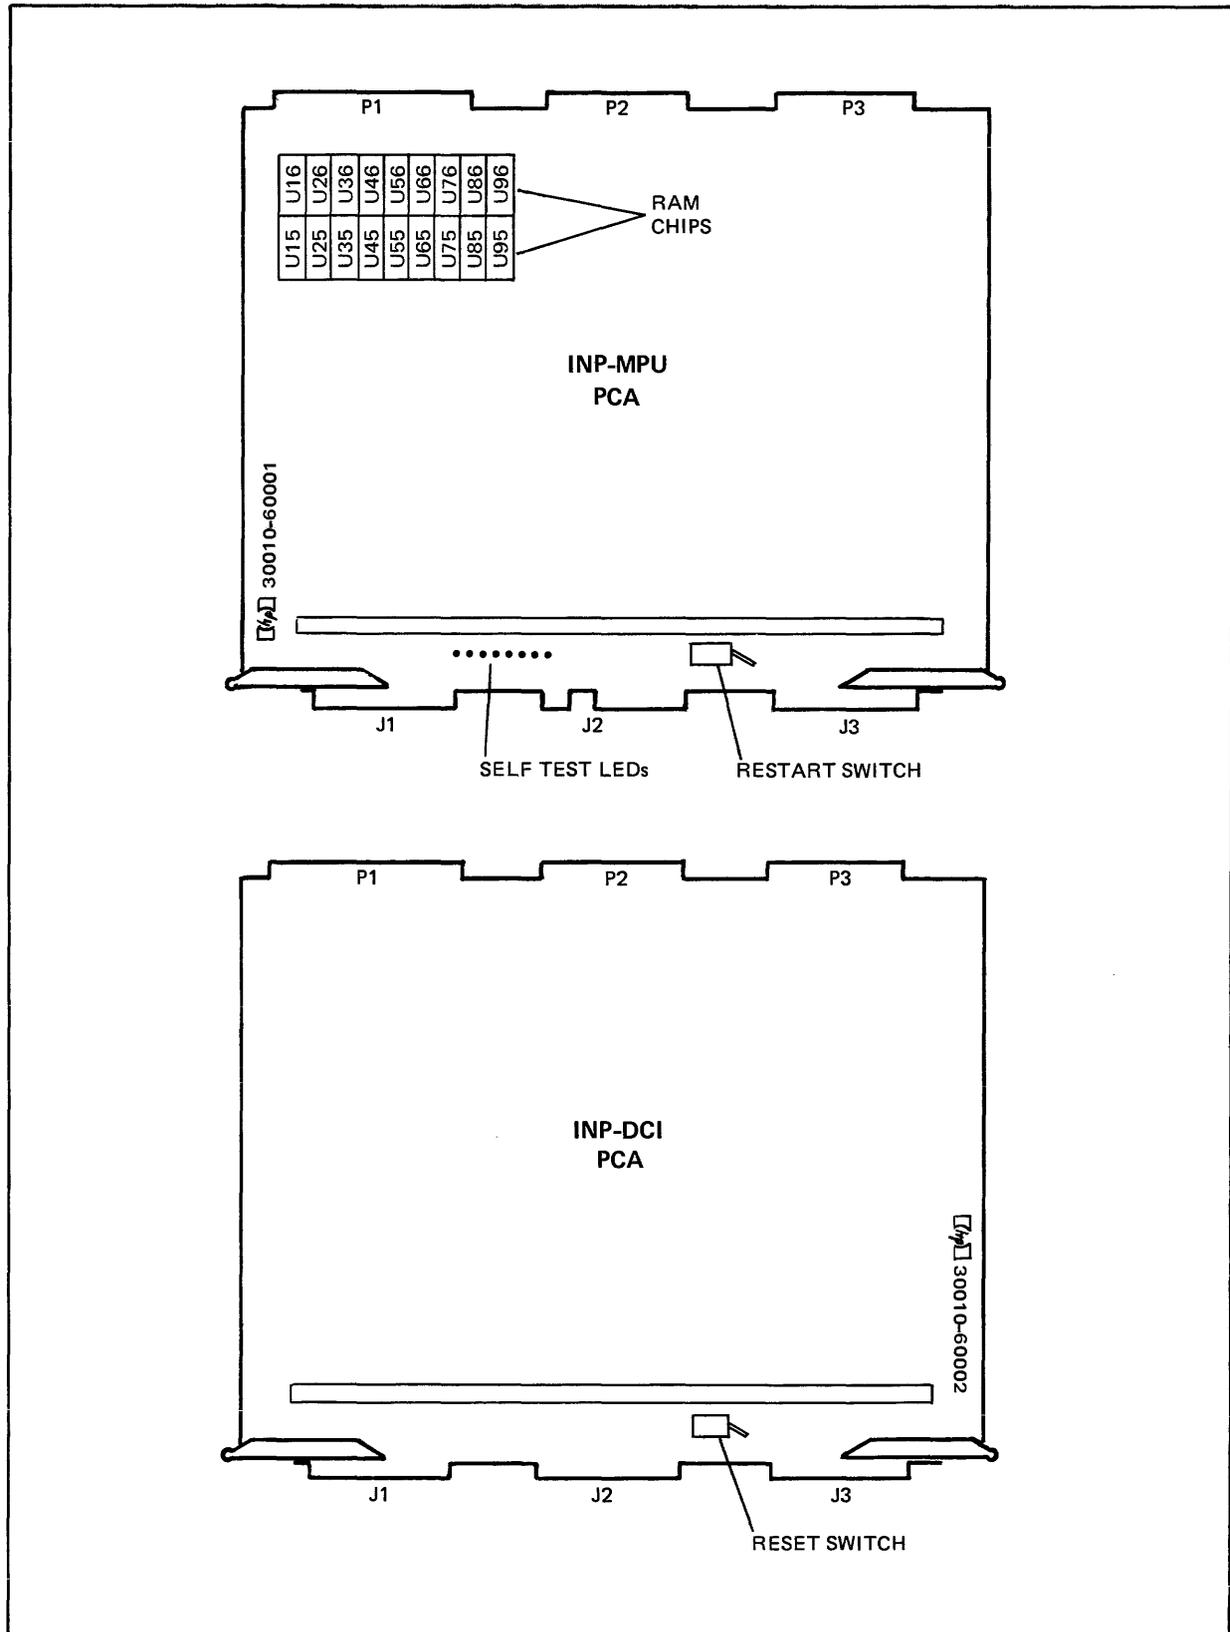

Figure 5-1. Location of Pertinent Components on INP PCAs
As each test is successfully completed, the next test in the sequence is started until the self-test cycle has been completed. The red LED indicators (located on the edge of the INP-MPU board, near the self-test initiating RESTART switch, as shown in figure 5-1) wink on and off during the test cycle (approximately 2 seconds in duration) and stop in a pattern that shows the test results. If LEDs 0 and 7 (the ones at each end of the array) are the only ones lighted, all tests have been completed successfully. Any other pattern indicates a failure. Table 5-1 (under "Troubleshooting") shows the meanings of various LED patterns.
The self test checks most of the circuitry of both INP PCA boards. If, upon completion of the self test, the self-test LED indicator lights (figure 5-1) are displaying 0 and 7 (only the two lights at each end are lighted), there is no detectable hardware malfunction within the INP PCA boards. If any other combination of lights is being displayed or if you still suspect a malfunction beyond the physical limits of the PCA boards, call your Hewlett-Packard Customer Engineer (CE).
- b. Before initiating any other action, open the computer card cage door and observe the INP self-test LEDs (see figure 5-1 for the location of the LEDs). Note whether the LEDs are flickering or a static pattern is being displayed, and make a written record of which LEDs are lighted. This information may be needed later if the problem persists beyond the initial steps of troubleshooting.
- d. Press the manual RESTART switch (figure 5-1) to initiate the self test.
The Random Access Memory (RAM) chips are the only components on either of the INP PCA boards that are field replaceable. (See figure 5-1 for their location on the board.) If troubleshooting procedures (such as use of the self test) indicate that a RAM is faulty, replace it as follows: